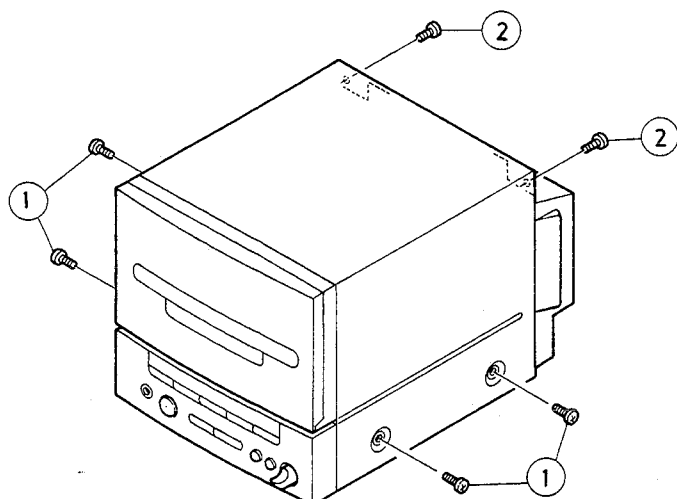
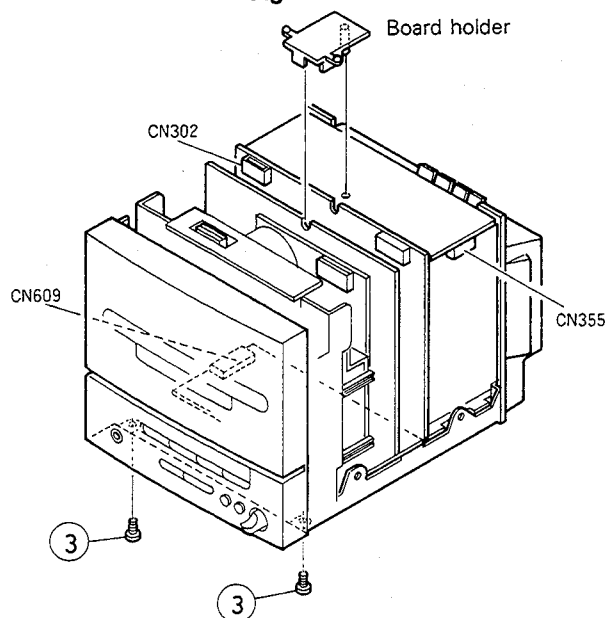

Fig. 7-7
Fig. 7-8
1. Remove six screws ① and ② retaining the metal cover. (Fig. 7-7), (Fig. 7-8)
3. Remove two screws ③ retaining the front panel, the bottom cover and the jack holder together with.